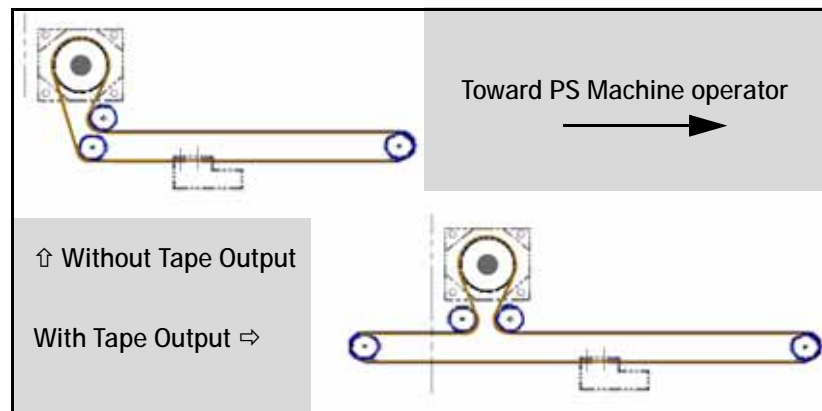

Figure 4-35: The shuttle belt routing for systems with a marking option, with and without the Tape Output option.
- 6b. Route the new belt through the shuttle transfer assembly as shown in Figure 4-35. Make sure all sprocket teeth mesh with the holes in the belt.